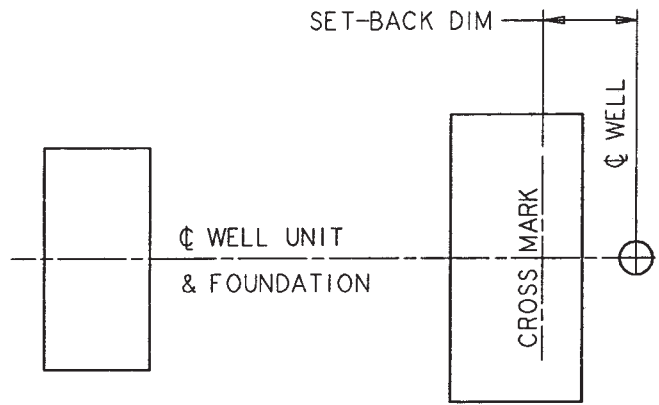

Figure 7
4.4 ALIGNMENT MARKS (Figure 7)